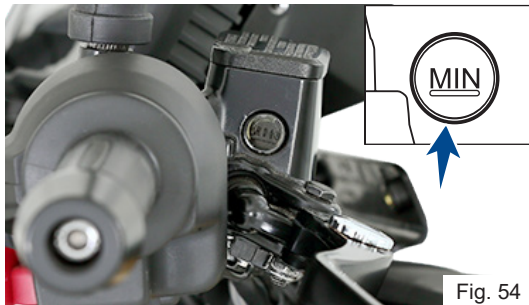
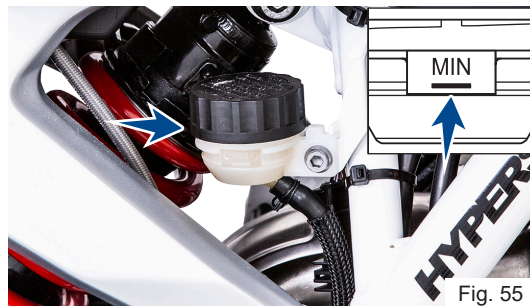

Fig. 54
Fig. 55
- Inspect the oil level of both front and rear brake fluid reservoirs (ref. Fig. 54 & Fig. 55).